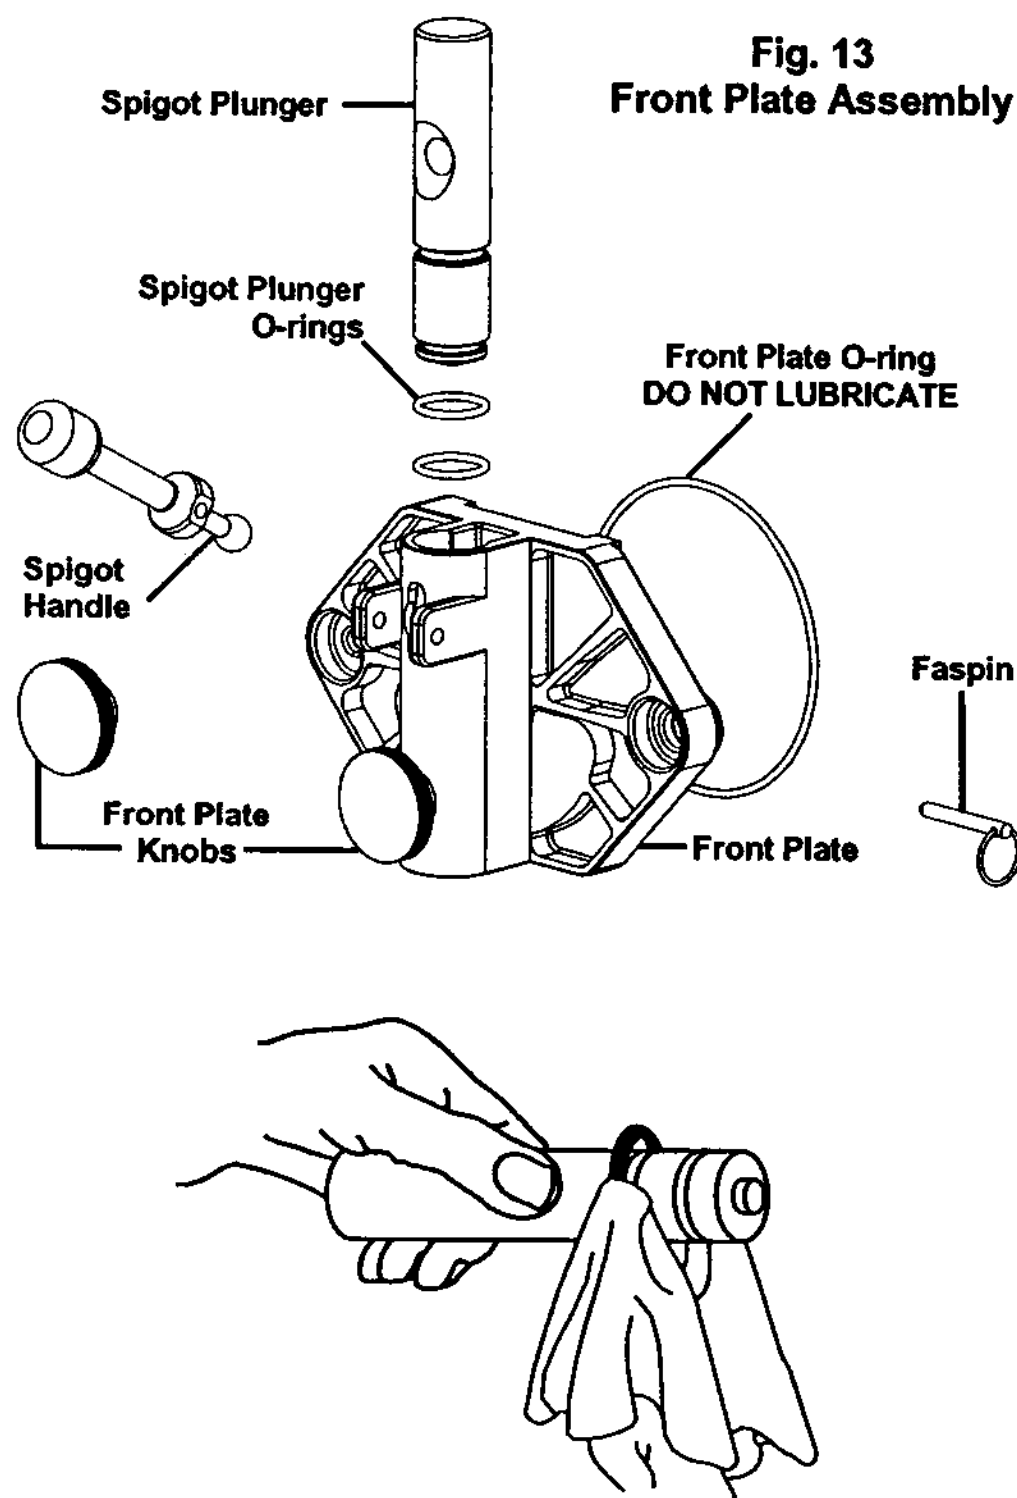

Fig. 13
5. Remove the front plate by turning the black plastic knobs in a counterclockwise direction (Fig. 13). Disassemble the front plate in the following manner:
6. The front plate for the high capacity series machines (Fig. 15) is disassembled in the same manner as the front plate shown in Fig. 13.